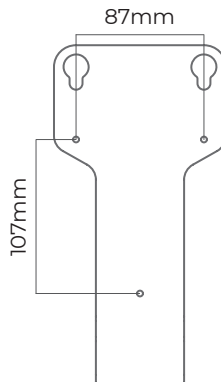

Fig. 4-3
1. Refer to the Fig. 4-3 to understand the dimensions of the wall bracket. Please make sure the space on the wall is at least 3.43" × 4.21" (87mm × 107mm).